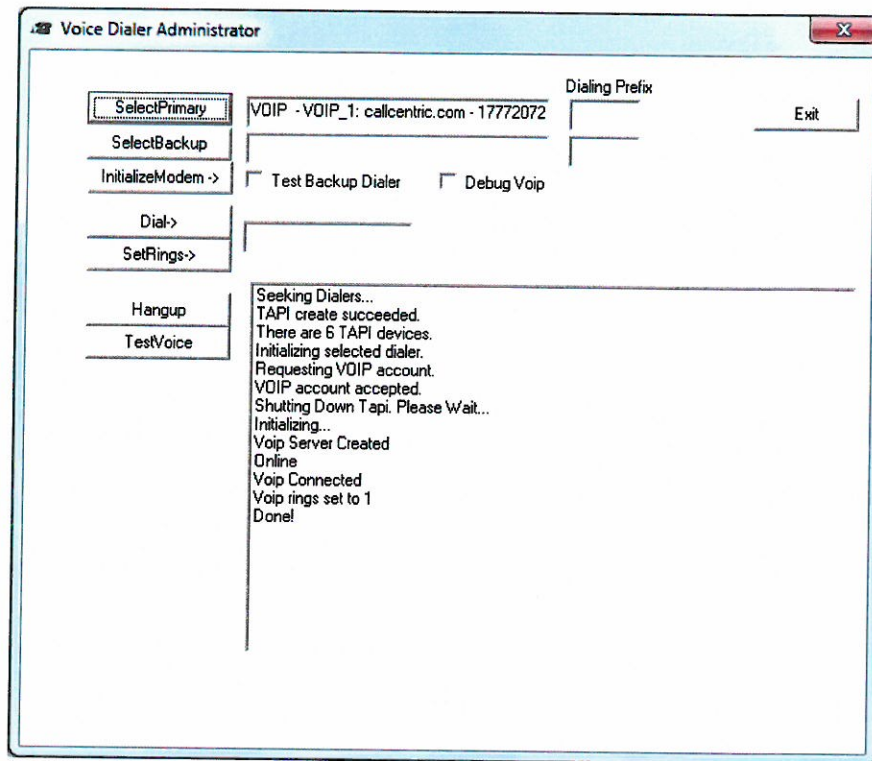
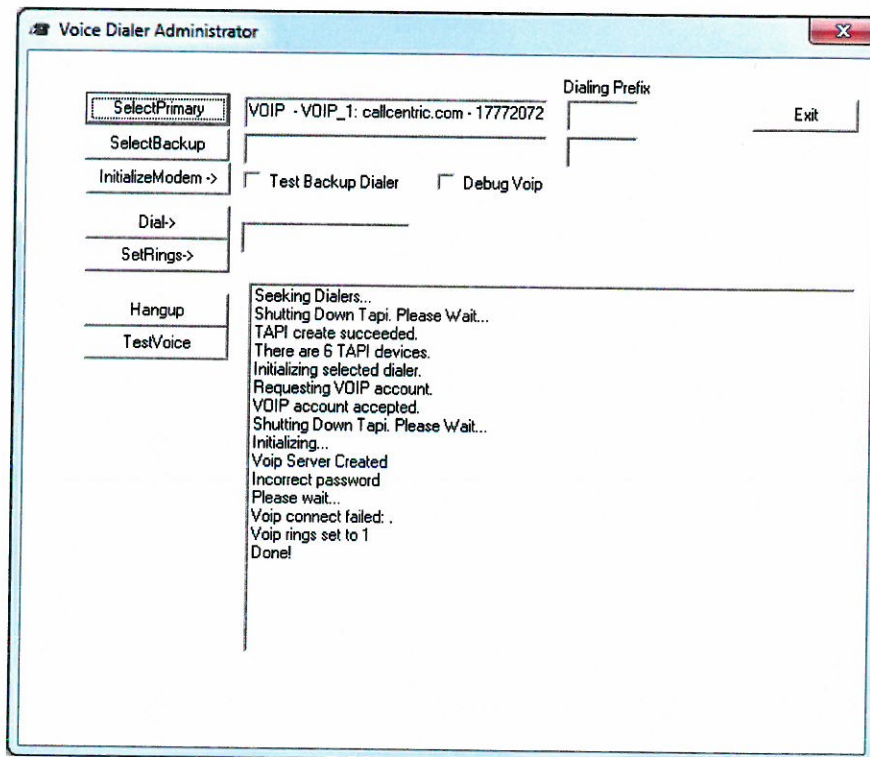

Fig 3. Successful connection to VoIP Server
Fig 4. Unsuccessful connection attempt.
6. Pressing OK will bring you back to the original Voice Dialer Administrator window. If the parameters you entered were correct, and the software was able to make a successful connection to the SIP VoIP server, the resulting window will display this information. A successful connection is shown in Fig.3 below. If any errors are encountered, or if the connection was unsuccessful, they will also be listed. An unsuccessful connection attempt is shown in Fig.4 below. If errors are encountered, verify your account settings as entered in the VoIP account settings page. Do not proceed until you are successfully connected to the VoIP server.